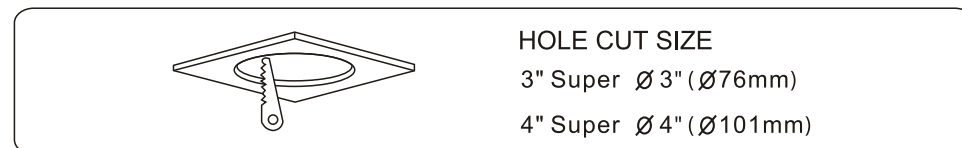

Fig. 1
6. Wire the driver box using the supplied quick connect push-in terminals. Connect the ground wire of the cable to the green wire on the driver box. Connect the white wire of the cable to the white wire on the driver box. Connect the black wire of the cable to the black wire on the driver box. (Fig.1).